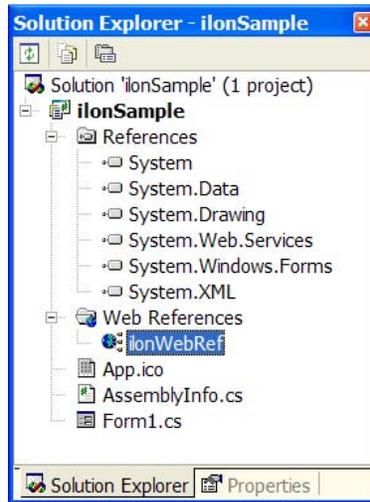

Figure 13.3 Solution Explorer
7. Click **Add Reference**. The new Web reference will appear in the list of references in the Solution Explorer, as shown in Figure 13.3.